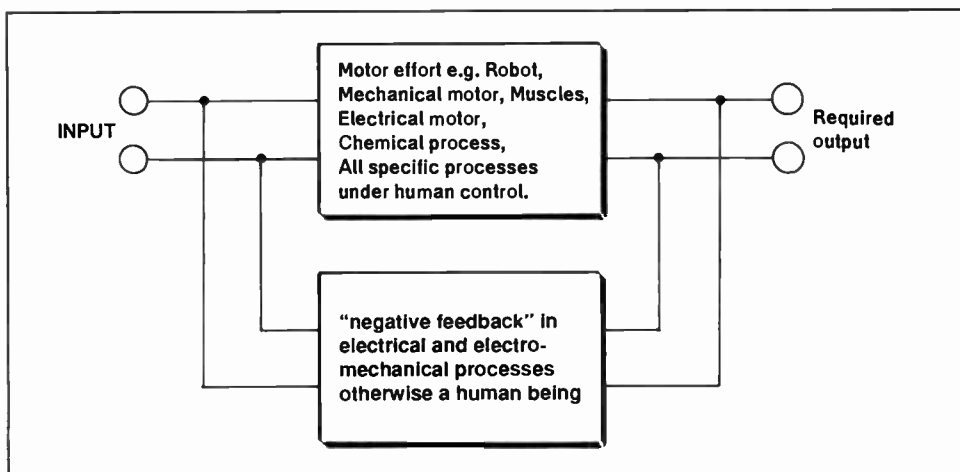

**Fig. 3. See caption of figure 2.**
Information processed in the basic computer may be in either analogue or digital form. In the 'logic unit', however, it is always dealt with in its digital form. There are only two answers to every question: yes or no, resembling a switch that is on or off as shown in Fig. 2. The problem represented by the switches in that illustration—which may be translated into analogue form at a later stage—exists in the memory and logic units in the form of a pattern as shown in Fig. 3.
**Fig. 2. Computers are, basically, assemblies of switches, each of which represents a 'yes' or 'no'. In this drawing there are 84 switch contacts, whose pattern is shown in Fig. 3. It does not require much mathematical insight to see that even 84 contacts provide an astronomical number of possible patterns. Imagine then the complexity of the human brain that has millions of switch contacts.**